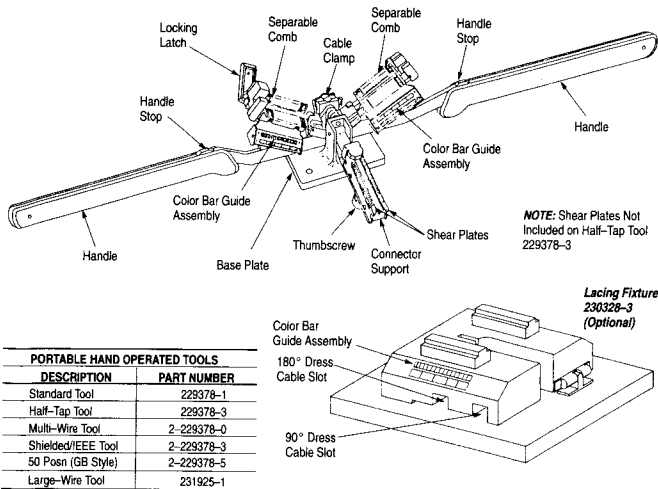

Figure 1
AMP® CHAMP Portable Hand Operated Tools 229378-1 and 231925-1 (see Figure 1) are designed to terminate 14-, 24-, 36-, and 50-position CHAMP connectors using the Insulation Displacement Crimp technique without any modification or conversion. The tools may be converted to perform various functions; see Section 12.
The MI-1 tools listed in Figure 1 may be used with the combs in place on the tool or with the combs removed from the tool and positioned on the optional lacing fixture. If lacing on the tool, wires may be laced into the combs to produce a 90° cable dress connection. If lacing remotely using the optional lacing fixture, wires may be laced into the combs to produce either a 90° or a 180° cable dress connection.
1. Open tool handles fully. Push on left side of locking latch until it snaps open; then push on right side to open latch completely. Refer to Figure 1.